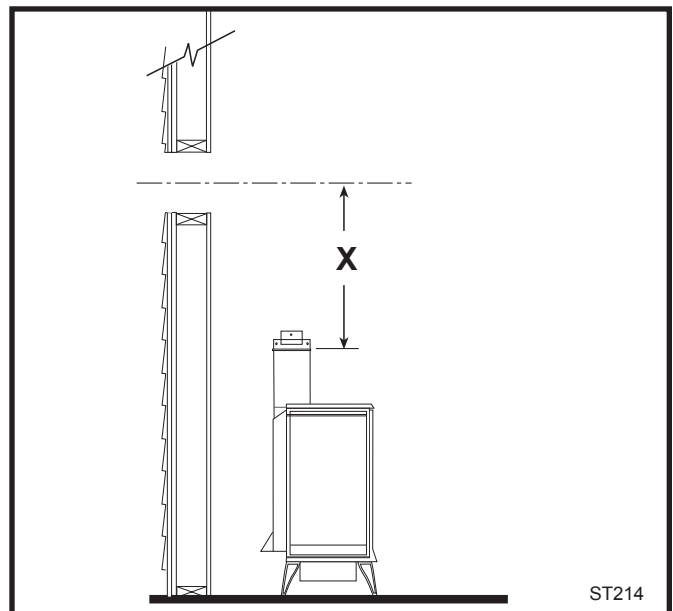

Fig. 24 Determine the vertical pipe length.
4. **For CFM Vent Pipe only:** If necessary, measure to determine the vertical length (X) of pipe required from the adapter pipe to the wall cutout centerline, including a 2" overlap at the joint. (Fig. 24) use a hacksaw or tin snips to trim the pipe as needed.